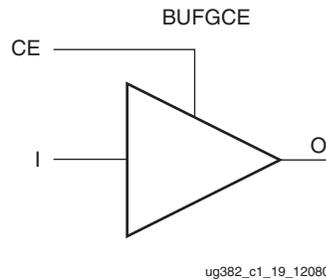

Figure 1-27: **BUFGCE Primitive**
The BUFGCE primitive creates an enabled clock buffer using the BUFGMUX select mechanism (see Figure 1-27). BUFGCE is a global clock buffer with a single gated input. Its O output is 0 when clock enable (CE) is Low (inactive). When clock enable (CE) is High, the I input is transferred to the O output. The BUFGCE truth table is shown in Table 1-15.